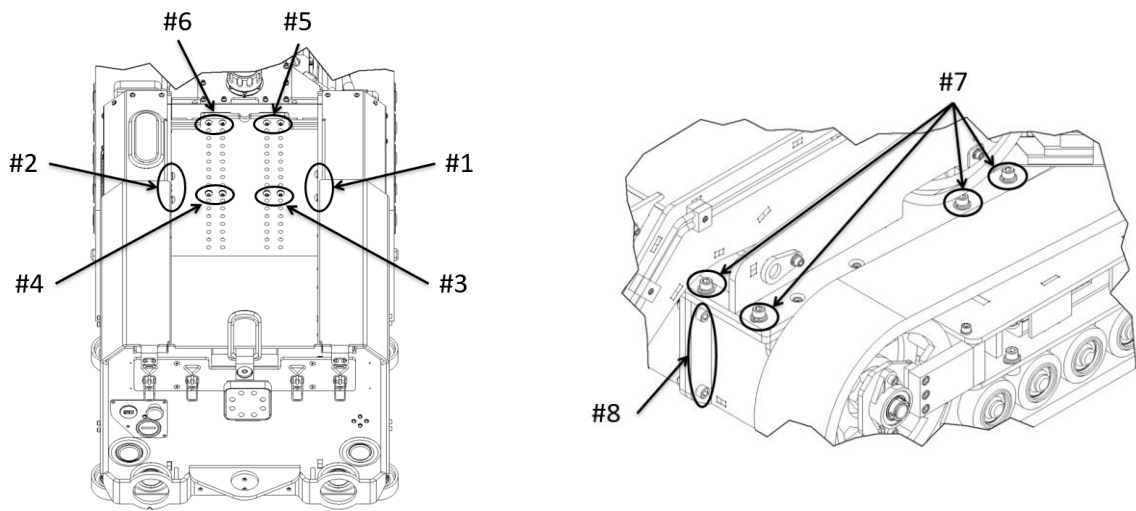

Figure 15 : Structural bolts locations
- **The structural bolts identified in the Figure 15 must be inspected before each lifting operation.** Additional information regarding this inspection is described below: